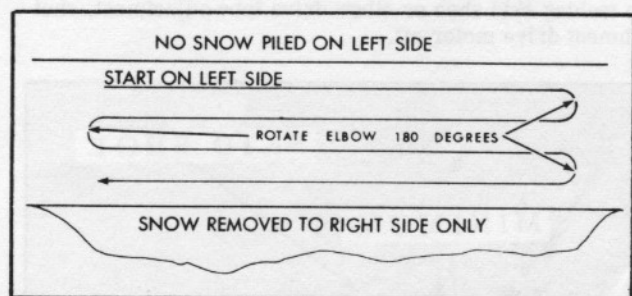

Figure 9. Discharge To One Side
A definite pattern of operation is required to thoroughly clean the snow area. This pattern will avoid a second removal of snow and avoid throwing snow in unwanted places. Where it is possible to throw snow to right and left, as on a long driveway, it is advantageous to start in the middle. Plow from one end to the opposite end throwing snow to both sides without changing direction of the discharge chute. See Figure (8). If snow can only be thrown to one side of the driveway or sidewalk, start at the opposite side. At the end of each pass, rotate the discharge chute 180 degrees for the return pass. At the end of each succeeding pass, rotate chute 180 degrees to maintain direction of throw into the same area. See Figure 9.